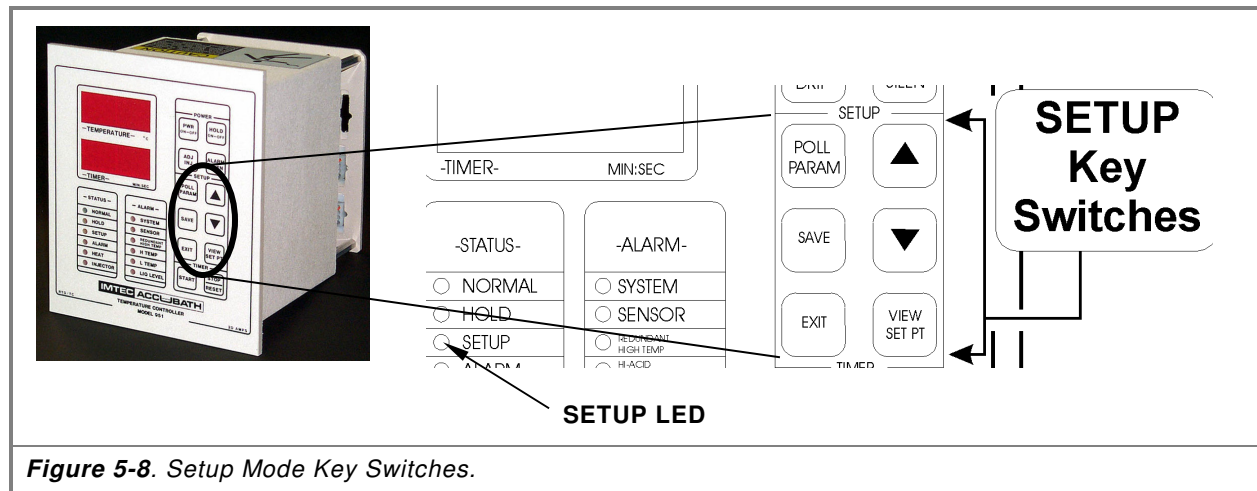

Figure 5-8. Setup Mode Key Switches.
2. Press the POLL PARAM key switch to enter SETUP Mode, Figure 5-8. The SETUP LED illuminates and the Temperature / Timer displays: **CODE**.